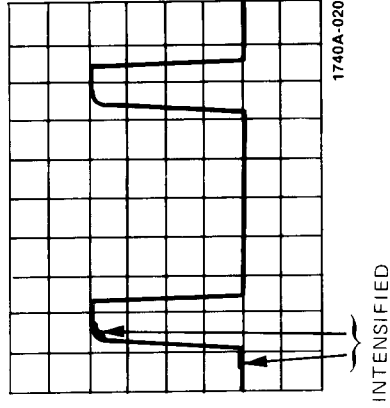

Figure 17a. Intensified Area On First Pulse
2. Set the DLY'D TIME/DIV control as required, and turn the DELAY control to place the intensified portion on the first pulse (see figure 17a).